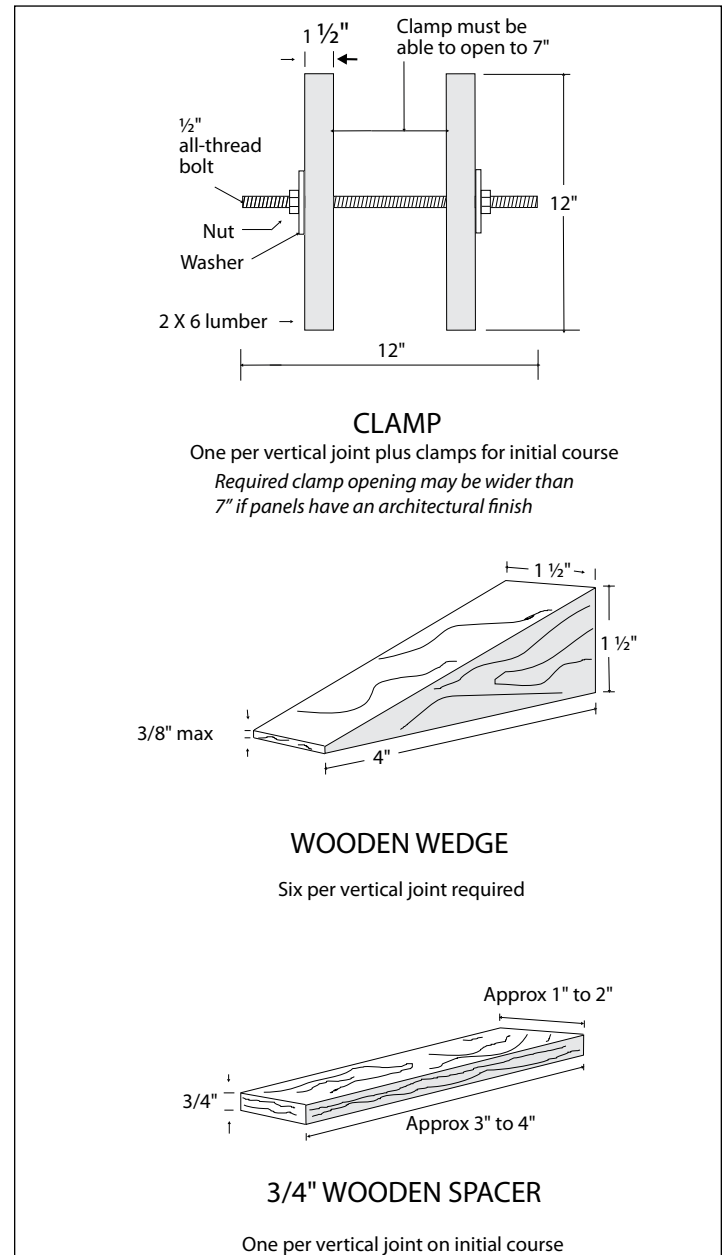

Figure 2
- ¾-in. Wooden Spacers (Figure 2).
- Wooden wedges in a quantity at least sufficient to provide 4 to 6 wedges per vertical joint for the length of structure under construction (Figure 2).
- Clamps, one per vertical joint for the length of structure under construction. Additional clamps will be needed to brace the initial course of panels (Figure 2).